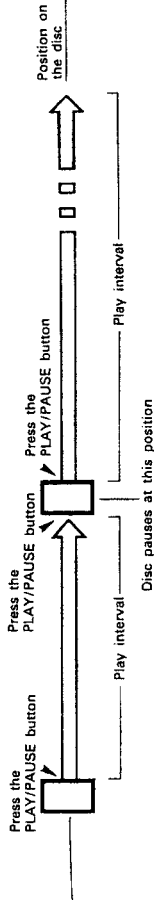

Figure 9
**(5) Description of the PLAY/PAUSE, and CUE Operations**
- The steps through which disc play is performed when the PLAY/PAUSE and CUE buttons are pressed are described with the aid of the following illustrations in Figures 9 through 11.
Pressing the PLAY/PAUSE button starts the disc play, the advancement of which is illustrated by the arrows of Figure 9. Pressing the PLAY/PAUSE button again during disc play causes the play operation to pause, and pressing this button once more causes the disc to be played again.